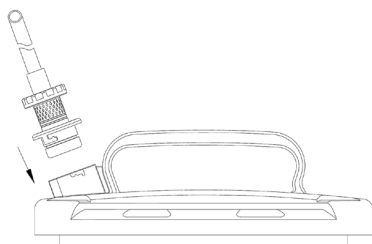

Fig. 1
3. Insert the pick-up hose fitting (#25 or 33) into the fluid inlet at the top of the container, turn counterclockwise to lock (Fig. 1 and 2).